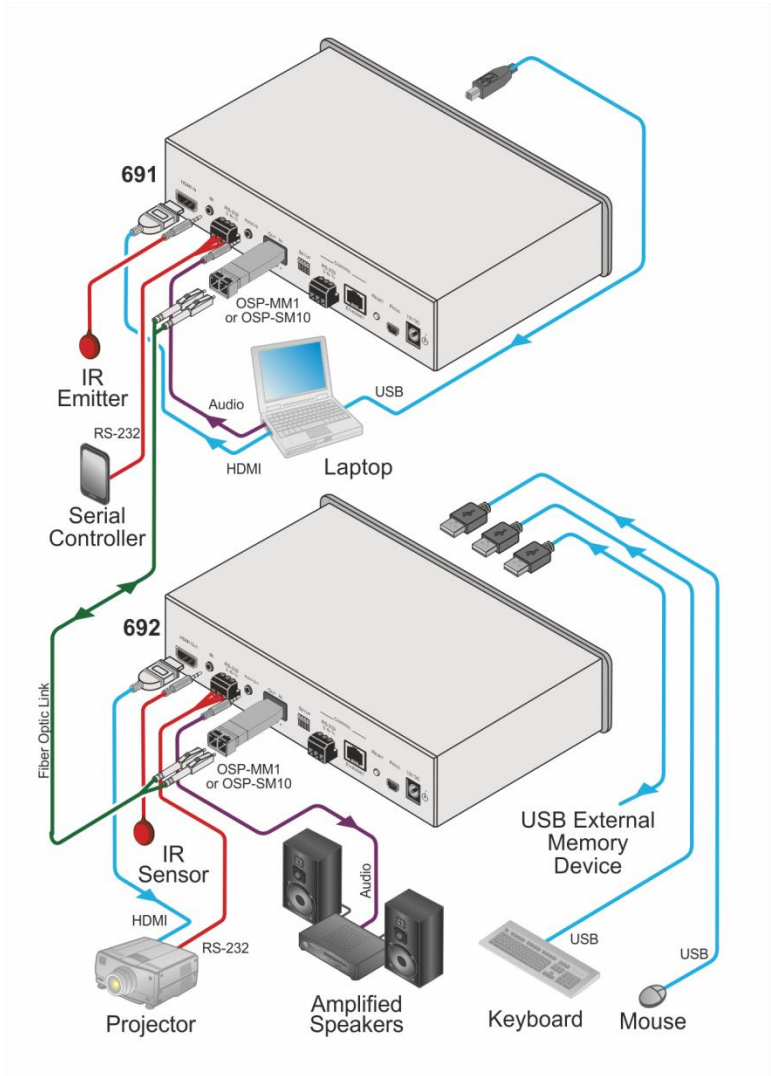

Figure 4: Connecting the 691 and 692
You can use the **691** HDBT 2.0 Optical Transmitter and a compatible receiver, for example, the Kramer **692** HDBT 2.0 Optical Receiver to configure a paired HDMI transmitter/receiver system, as shown in the example in Figure 4.
8. Connect the supplied power adapter to the power socket and plug the adapter into the mains electricity (not shown in Figure 4).
17. Connect the supplied power adapter to the power socket and plug the adapter into the mains electricity (not shown in Figure 4).